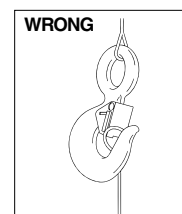

Figure 4
- Always make sure the hook supports the load (See Figure 3). The latch must never support the load (See Figure 4).